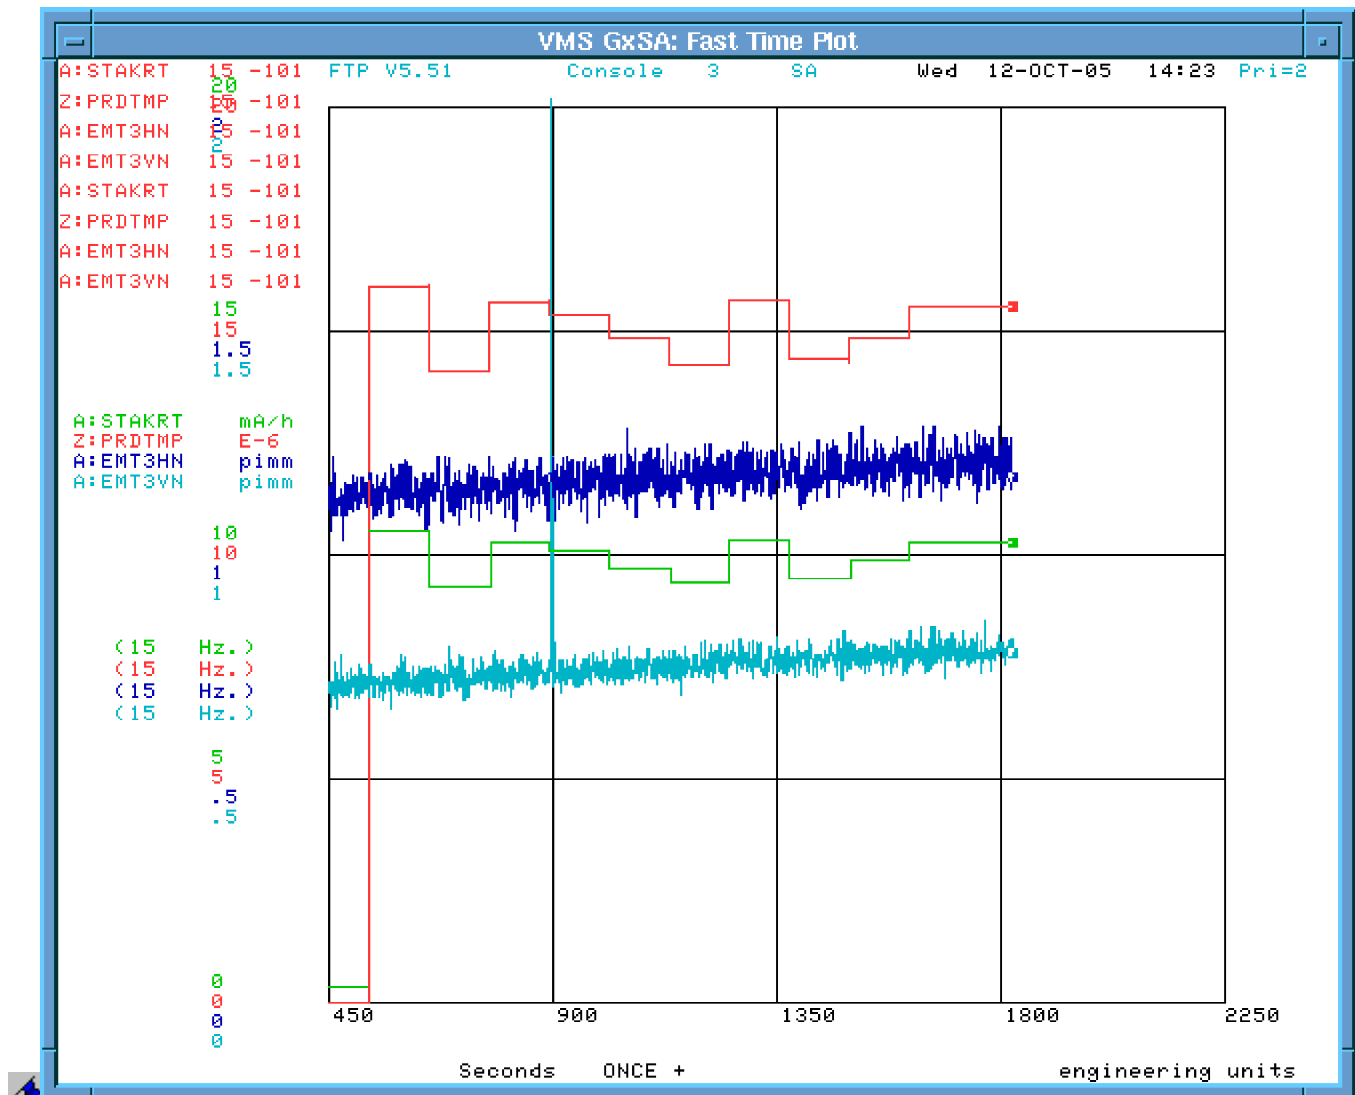

Figure 23: Utility Window FTP Pbar File 100 shows the stack rate, production efficiency and the transverse emittances in the Accumulator.
- Utility Window FTP Pbar File 100 is shown in Figure 23. This plot shows the stack rate, production efficiency and the transverse emittances in the Accumulator.